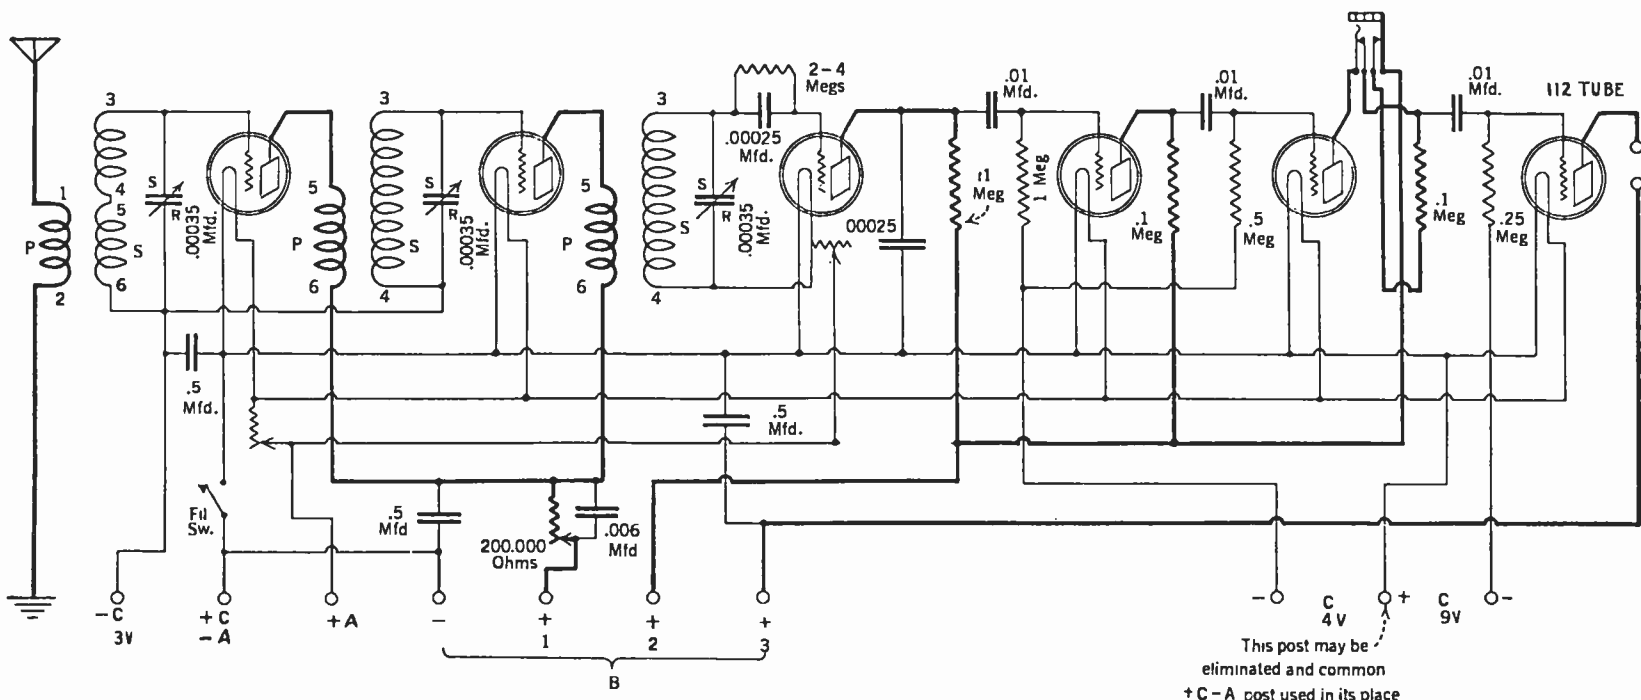

FIG. 1
4. plus B 90; 5. plus B 135. Reference to the modified circuit diagram, Fig. 1, will make this suggestion quite evident.
merely necessary to disconnect the wire leading from the detector secondary to the grid post of the detector socket and insert in this opening, the grid leak and detector. A .00025-mfd. condenser is satisfactory and is shunted by a leak of 2 to 4 megohms. The lower side of the detector secondary coil, terminal No. 4, does not connect to the minus C line but is brought directly to the positive terminal of the detector socket. These changes are shown in Figs. 1, 2 and 3.
This is the original circuit showing how either transformer- or resistance-coupled audio frequency amplification may be used. A comparison between this and the circuit shown in Fig. 1 will make obvious the alterations